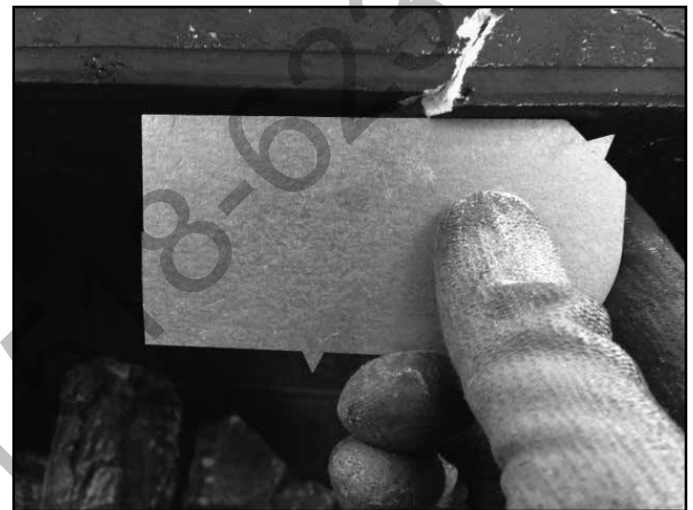

Figure 11.6. Surface plane of firebox is comprised and should be replaced.
- Cracks compromising the surface plane of the firebox. See Figure 11.6.